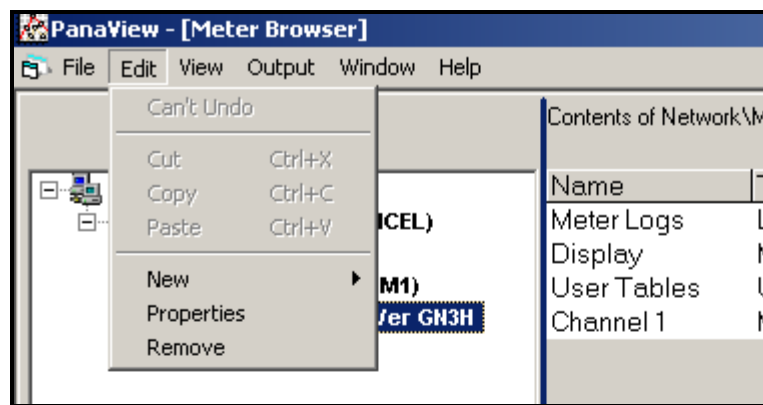

Figure 24: The *Properties* Option in the *Edit* Menu
2. Open the *Edit* menu and select the *Properties* option, as shown in Figure 24.